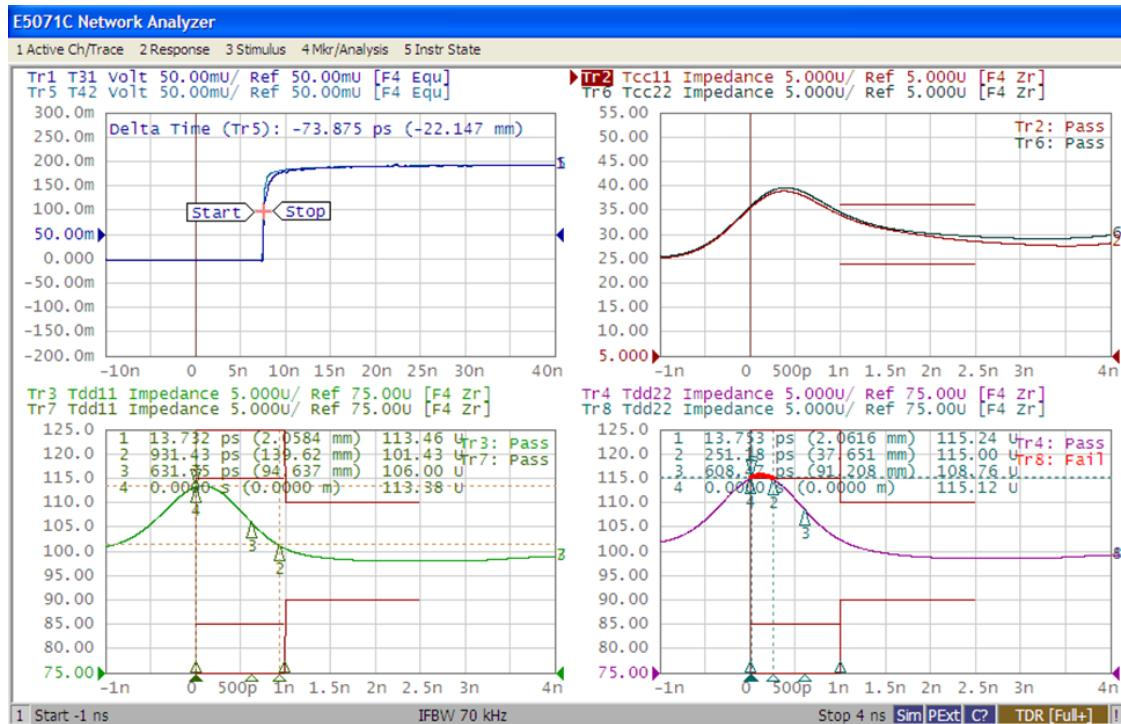

Figure 5-4 Time Domain Measurement Example
Read the delta time between Trace1 and Trace5 (top-left in Figure 5-4). Check if the value is within the limit: If the delta time ≤ 111 ps, then pass. Otherwise fail.
2. If Trace3 is pass and Trace7 is fail (bottom-left in Figure 5-4), confirm if the excursion is only one time and the duration of violation is within 250 psec.
3. Repeat the same test with Trace4 and Trace8 (bottom-right in Figure 5-4).
Read Pass/Fail sign on Trace2 and Trace6 (top-right in Figure 5-4).